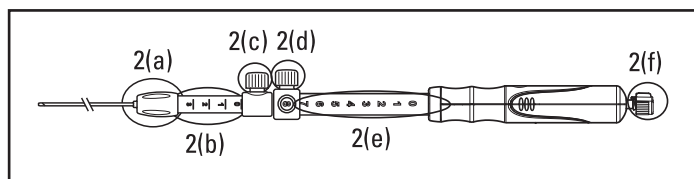

Figure 2.
- Confirm that the needle is fully retracted and that the needle adjustment lock (Figure 2(d)) is secure in the zero position (Figure 2(e)).
- Determine the appropriate sheath length relative to the length of the echoendoscope. Use the sheath adjustment lock (Figure 2(c)) to set the desired length of the sheath and lock it in place. Turn the sheath adjustment lock clockwise to lock the sheath in place. The distal end of the sheath should be visible on the endoscopic image.
Note: The reference numbers and markings on the sheath adjust gauge (Figure 2(b)) are intended as reference only.
- Continue to advance the device until it exits the echoendoscope and the sheath is visible in the endoscopic image. Tighten the luer attachment (Figure 2(a)) by turning clockwise to attach the device to the working channel port of the echoendoscope.
Note: If it is necessary to adjust the sheath length, loosen the sheath adjustment lock (Figure 2(c)) and reposition it to the appropriate reference point.
- Adjust the needle penetration depth to the desired position using the needle adjustment lock (Figure 2(d)). To control the depth of needle penetration to the target site, loosen the needle adjustment lock by turning the knob counterclockwise. Align the needle adjustment lock with the appropriate reference number on the device handle. Lock in place by turning the needle adjustment lock clockwise.
Note: The reference numbers on the needle depth gauge (Figure 2(e)) are intended as reference only. The reference numbers represent needle extension (in centimeters) when the device is in a straight position.
- Remove the stylet (Figure 2(f)) from the aspiration port of the device by gently loosening and pulling it from the device handle.
Note: The stylet can be coiled and clipped together using the clip mechanism on the stylet cap (Figure 2(f)). The stylet should be retained for additional needle passes during the same procedure.
2. Connect the supplied syringe to the aspiration port (Figure 2 (f)) on the device handle.
2. Connect the supplied syringe to the aspiration port (Figure 2(f)) on the device handle.